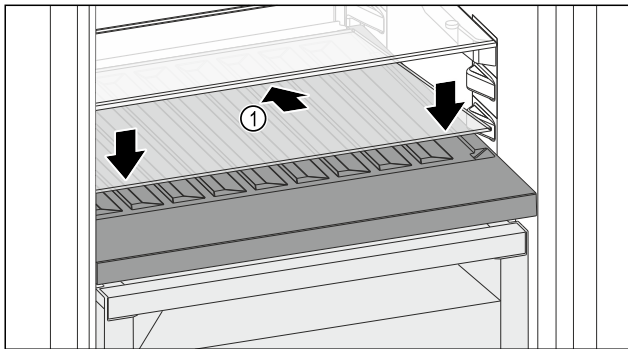

Fig. 86
- Place the glass shelf Fig. 86 (1) at an angle, sloping it downwards and backwards.
- Lower the glass shelf Fig. 86 (1) at the front.